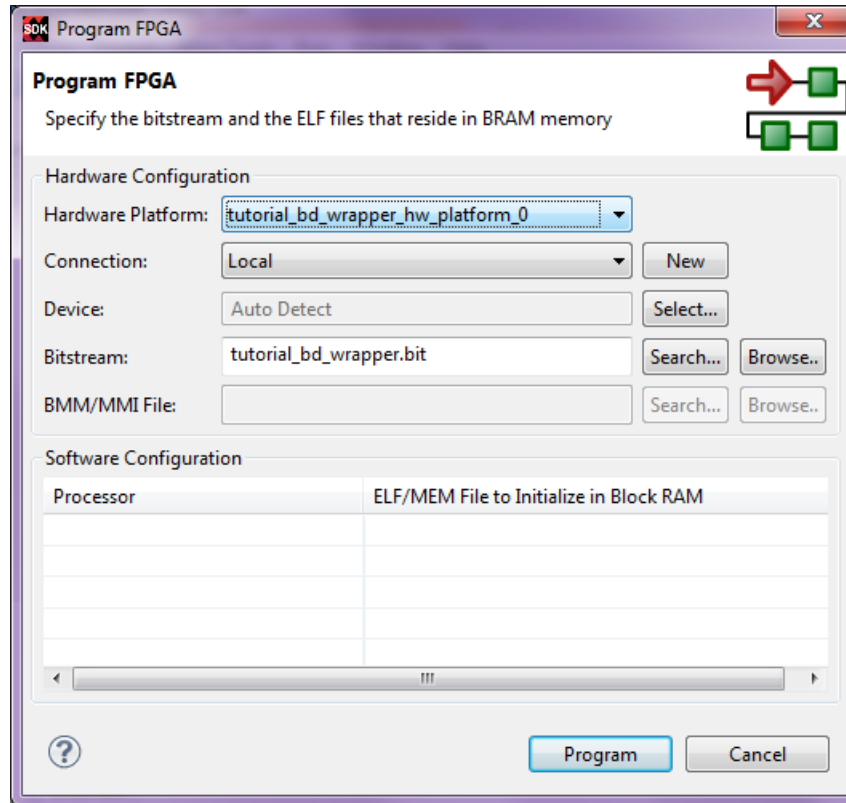

Figure 3-10: Program FPGA Dialog Box with Bitstream File
6. Select **Xilinx Tools > Program FPGA**. The Program FPGA dialog box, shown in Figure 3-10, page 39, opens. It displays the bitstream exported from Vivado.